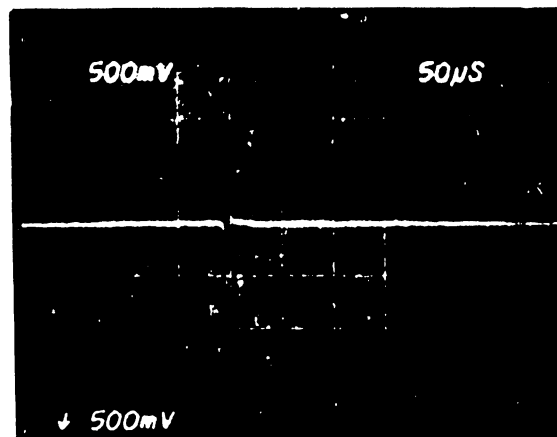

Figure 9 Index Timing
- c. Observe the timing between the start of the sweep and the first data pulse. This should be 200 usec \pm 50 usec (Refer to Figure 9). If the timing is not within tolerance, continue on with this procedure. If correct, proceed to Paragraph 4.9, and perform the Write Protect Detector Adjustment procedure.